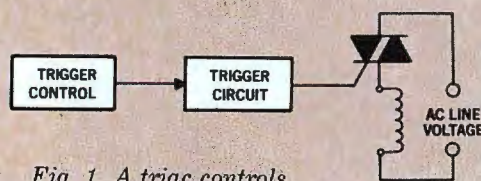

Fig. 1. A triac controls voltage across primary.
**Primary Circuit.** The block diagram in Fig. 1 shows a basic method of power supply protection. Characteristic of this arrangement is the triac in series with the primary of the transformer. During normal operation, the